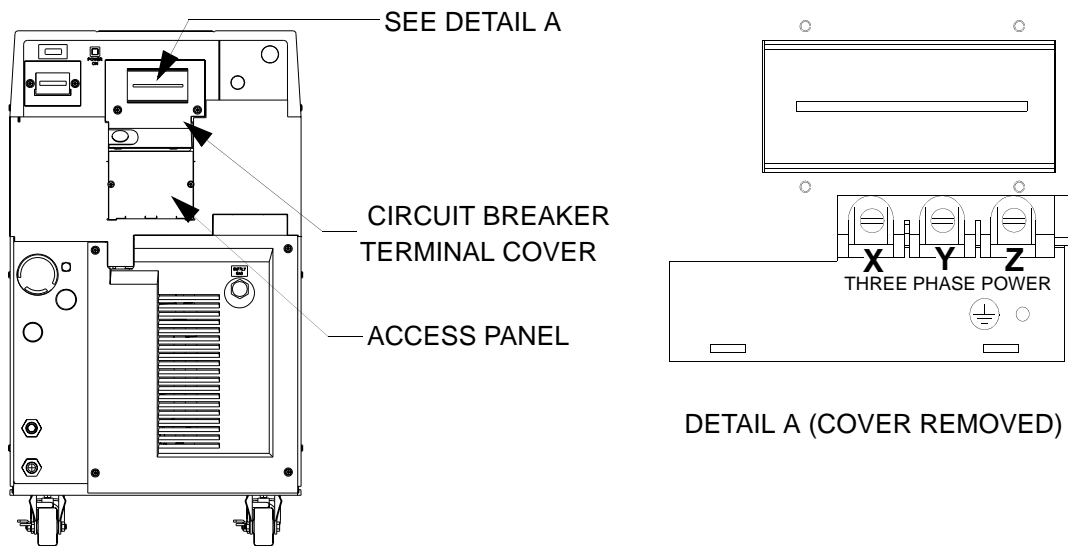

Figure 4-2: 9700A Compressor Circuit Breaker Terminals
5. Remove the access panel as shown in Figure 4-2 and described Note below.
NOTE: Use a slotted screwdriver that can hold a screw when performing steps 9 and 10. Remove the screws from the 9700A Compressor circuit breaker terminals X, Y, and Z as shown in Figure 4-2.
NOTE: For installation where one of the three phase legs is at or near ground potential, connect that leg to terminal Y on the 9700A Compressor as shown in Figure 4-2.
9. Install the conductor terminal lugs to the circuit breaker terminals X, Y, and Z as shown in Figure 4-2.